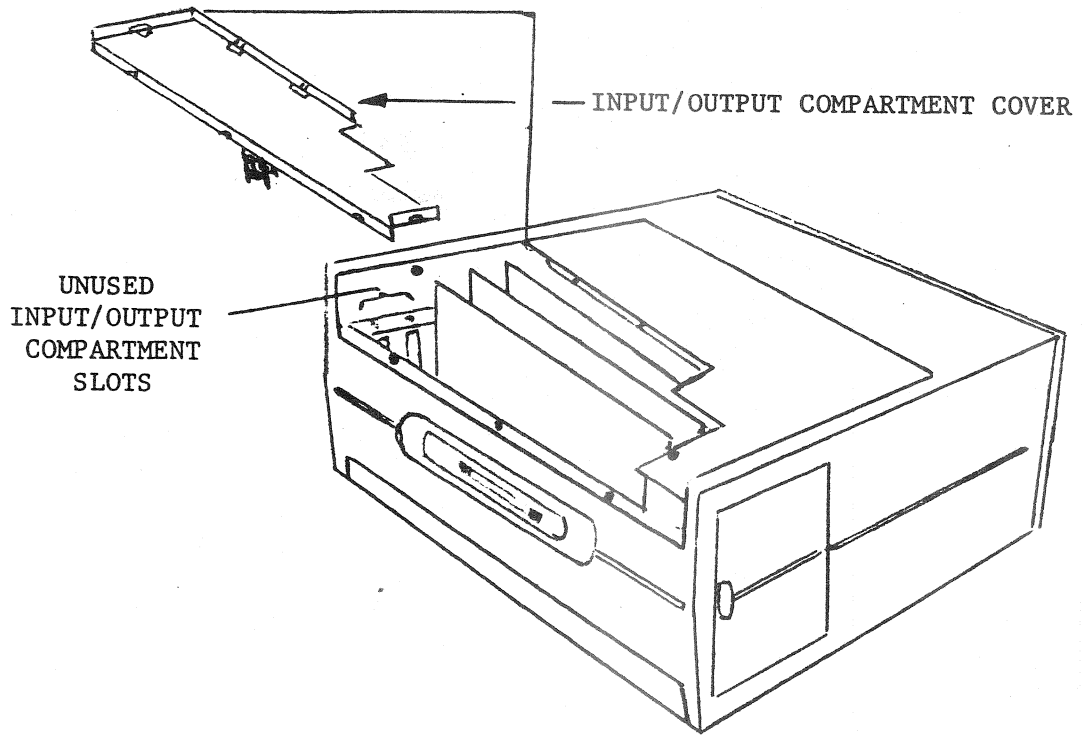

Figure A-3. Input/Output Compartment Cover
Step 6 - Remove the screw that secures the expansion slot cover. Remove and discard this cover. Do this in either of the 2 unused slots. (See Figure A-3.)